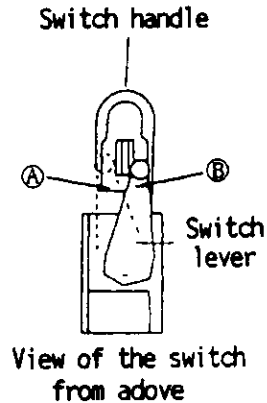

Fig.1
<CHECK SWITCH BLOCK.> (See Fig. 1 & 2)
• There should be continuity between ③ and ④, and between ② and ④.
* Inspection of the forward / reverse selection switch. (See Fig. 1 & 2)